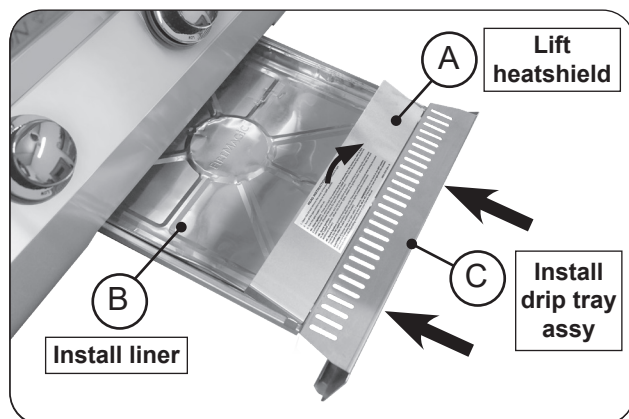

Fig. 25-3 Install drip tray
1. Lift the heatshield slightly, then place a liner into the drip tray (Fig. 25-3, A and B).
2. Then fully insert the drip tray assembly into the bottom front opening of the control panel (Fig. 25-3, C).